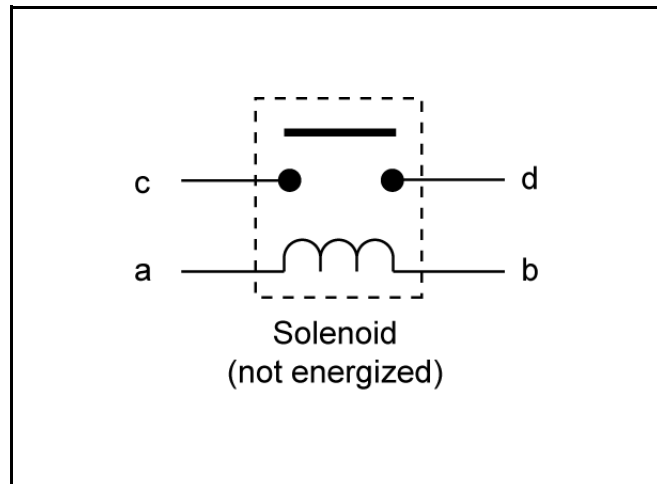

Figure 19
The solenoid has two primary parts. One is a coil of wire wrapped around an iron core. Whenever 12 volts is applied to the coil, it becomes a magnet. The other part is a bar type switch (Figure 19). Because it has a large contact area with the contact terminals it can easily handle the high current loads required by the starter motor.
2. With a multimeter (ohms setting), check to ensure that terminals “c” and “d” are open (no continuity) (Figure 19).
3. Apply +12 VDC to terminal “a” and ground terminal “b”. Terminals “c” and “d” should now be closed (continuity) (Figure 19).